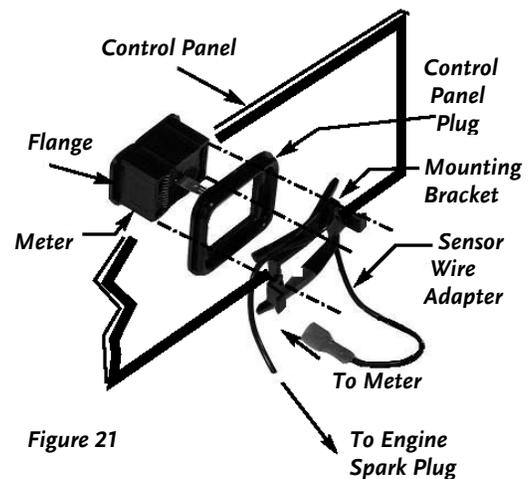

Figure 21
2. Insert the Control Panel Plug from the new Meter Kit into the open hole in the Control Panel (**Figure 21**).